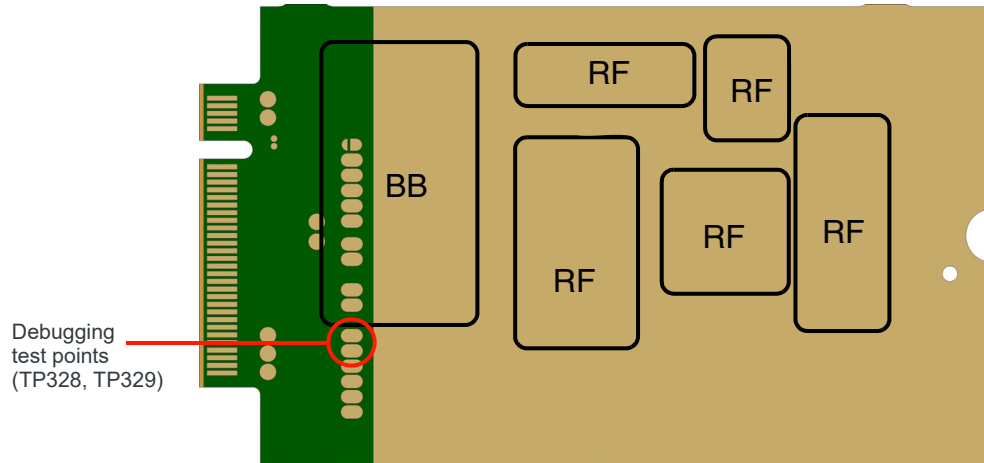
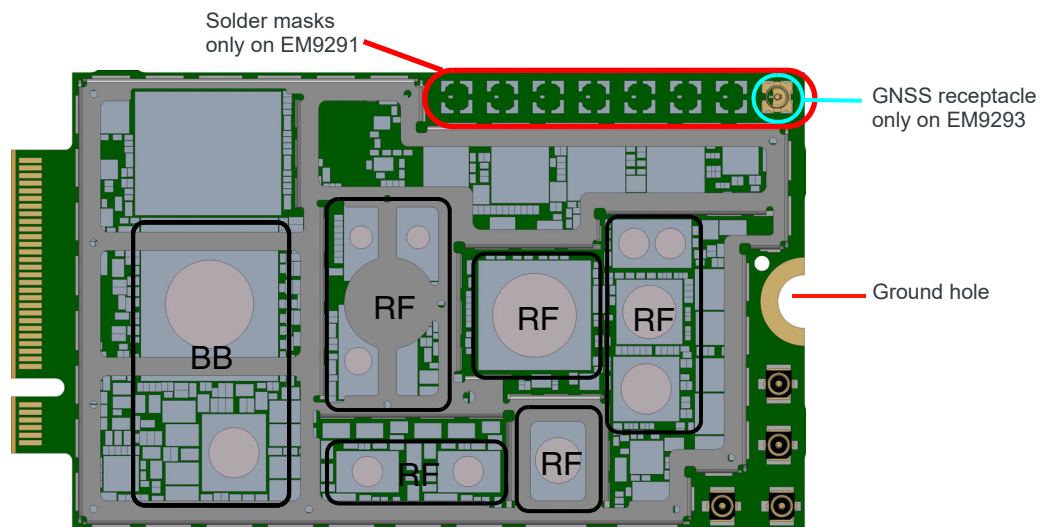

Figure 7-6: Regions requiring thermal dissipation (Bottom view)
Figure 7-7: Regions requiring thermal dissipation (Top View)
Sierra Wireless recommends that the host device dissipate heat from the bottom surface of the module PCB and, if desired, from the top surface of the module shield. Figure 7-6 and Figure 7-7 display the locations of significant heat sources (BB—baseband components, RF—RF components) that require heat dissipation.
Note—Sierra Wireless recommends that the debugging test points (TP328 and TP329, see Figure 7-6) remain accessible for Sierra Wireless to assist in system debugging. Make sure the test points are not shorted to anything.
- Monitor temperature at all shield locations. Attach thermocouples to the areas indicated in Figure 7-7 on page 78 (RF, Baseband).